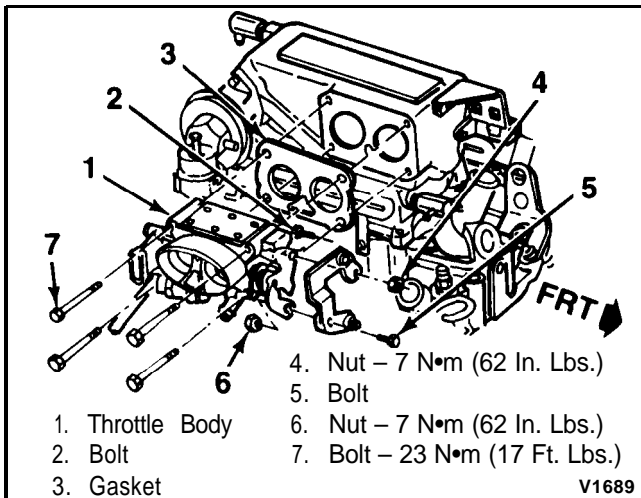

Figure C2-7 - 4.3L Turbo Throttle Body
**THROTTLE BODY (Figure C2-7)**